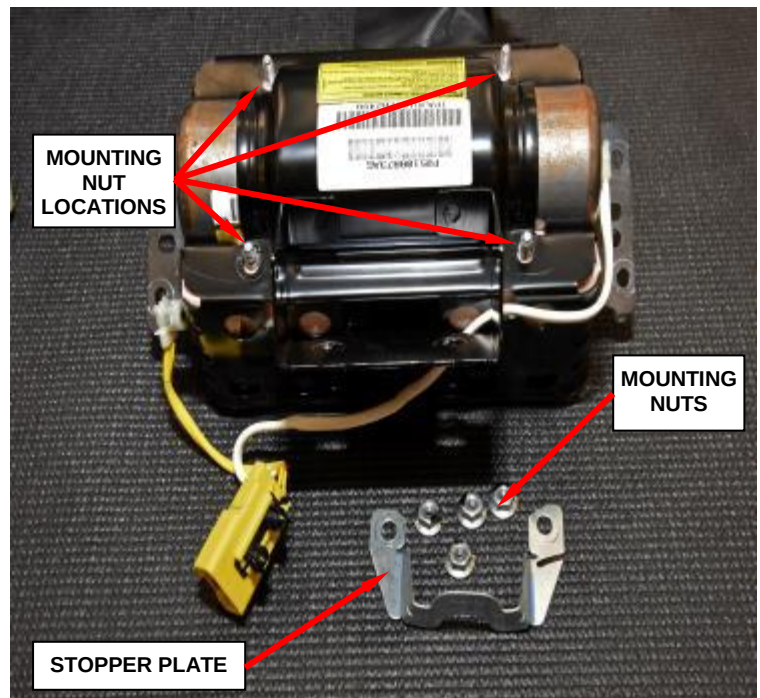

Figure 96 – Mounting Nuts and Stopper Plate
- e. Remove and **discard** the four inflator mounting nuts (Figure 96).